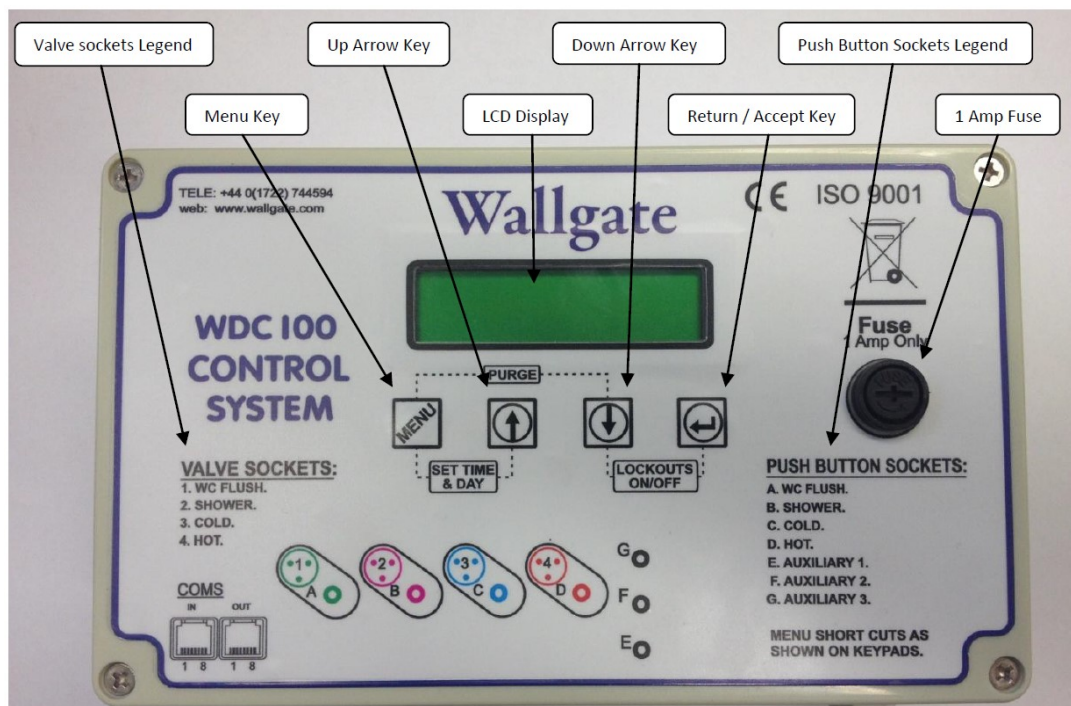

Figure 3 - Front Panel WDC100
All the switches and the menu display is located on the front panel of the WDC100 control unit. Refer to Figure 3 for an illustration of the WDC100 front panel.
4. Start the **Purge Cycle** by pressing and holding down the **Menu** and **↓** keys simultaneously for five seconds. Refer to Figure 3 on page 9 for a picture of the front panel.